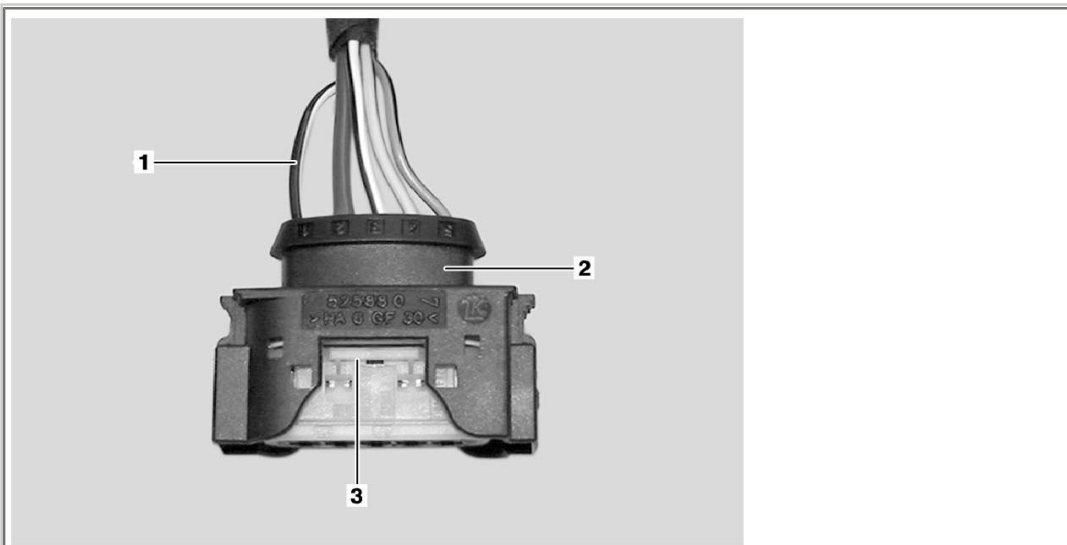

Figure 1
4. Open pin lock (3, Figure 1) on connector (2, Figure 1) and "un-pin" turn signal wire (1, Figure 1) from connector. Left side, pin 1 is white/black. Right side, pin 1 is green/black. Refer to WIS document no. AR00.19-P-0120-02B, Removing Contacts from Sensor Connector.
10. Re-connect connector (2, Figure 1) with headlamp housing.